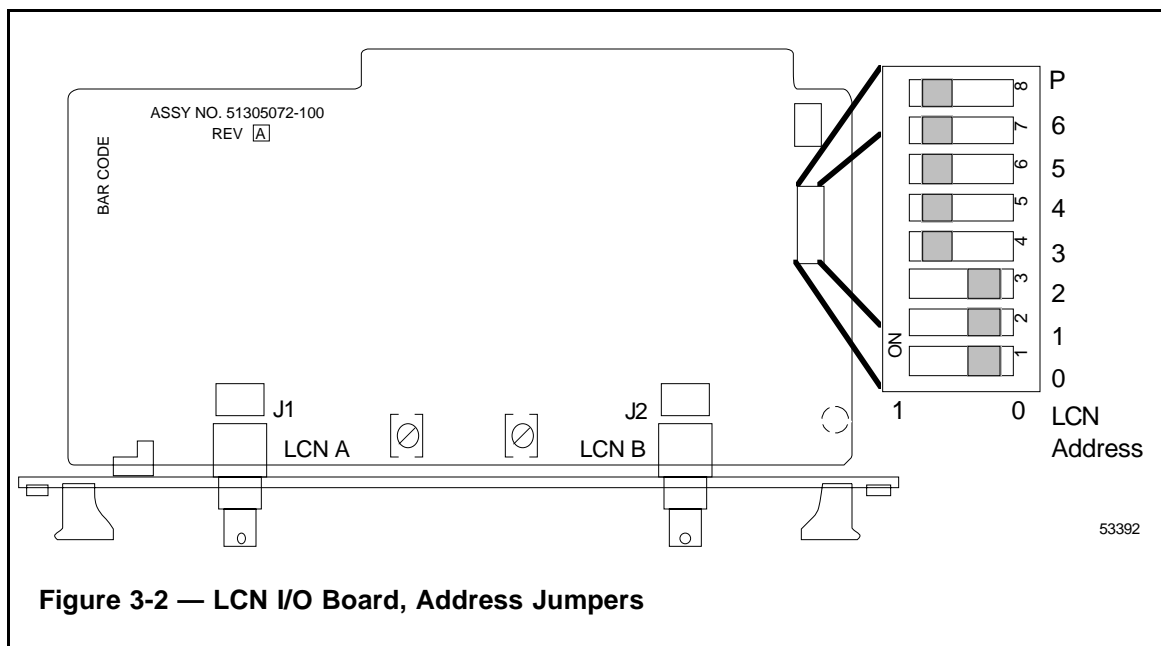

Figure 3-2 — LCN I/O Board, Address Jumpers
1. Remove the LCN I/O paddleboard from rear slot 2 in the PLCG module. Refer to Figure 3-2 for instructions and the location of the pinning header on the LCN I/O board. Pin the node address as shown. Be sure to adjust the parity jumper as required.